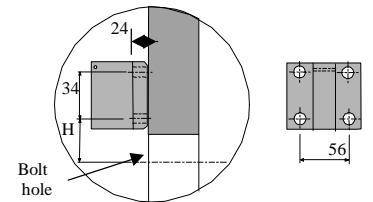

Fig. 3
- 3.1 Fit the locking plate (1) on both ends of the bolt (6). Turn the bolt to the best position, and screw the Locking device (8) onto the equipment (see Fig.3 and 4). Use M16x45mm umbraco. Socket spanner: 14mm.